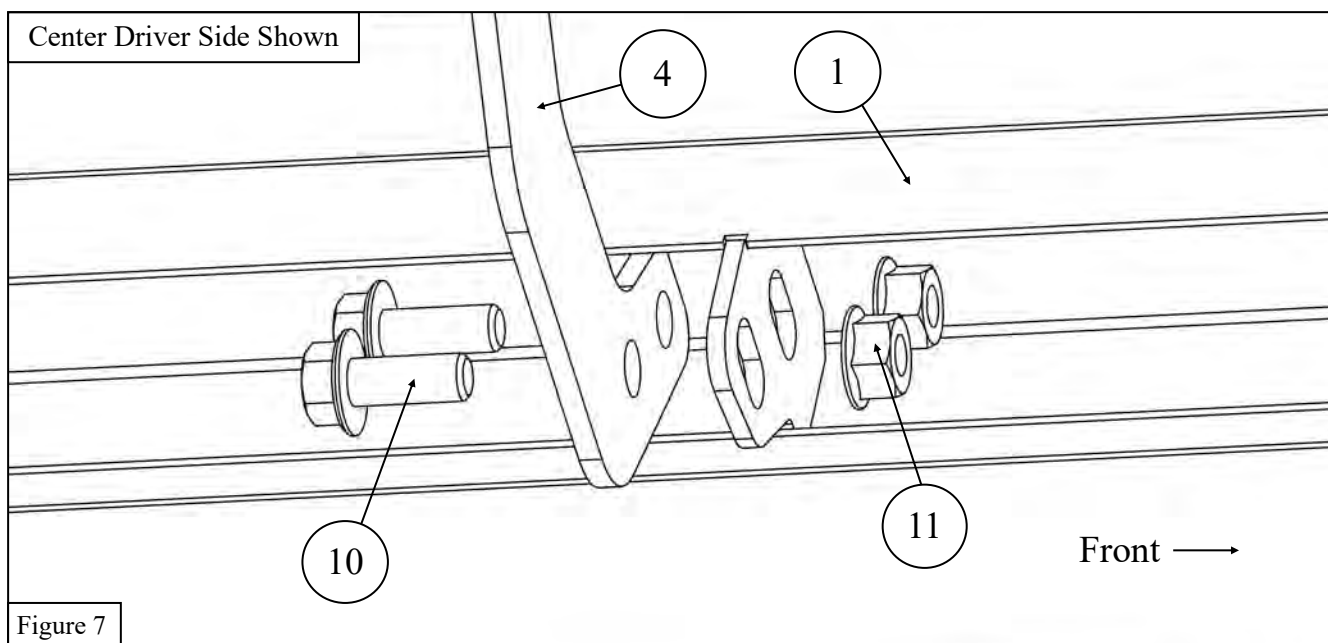

Figure 7
7. Install the Driver Side Outlaw Drop Running Board (Item 1) using the supplied M10 hardware. See **Figure 7**.